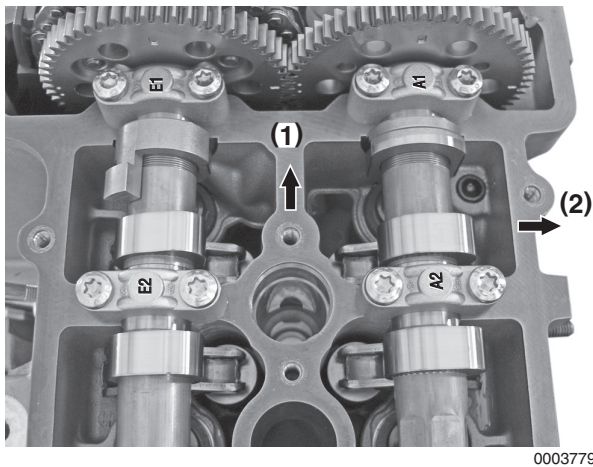

Figure 5-103
Note: Bearing caps are numbered beginning at the front (**Figure 5-103, (1)**) of the engine. The numbered markings of all caps should face the exhaust side (**Figure 5-103, (2)**).